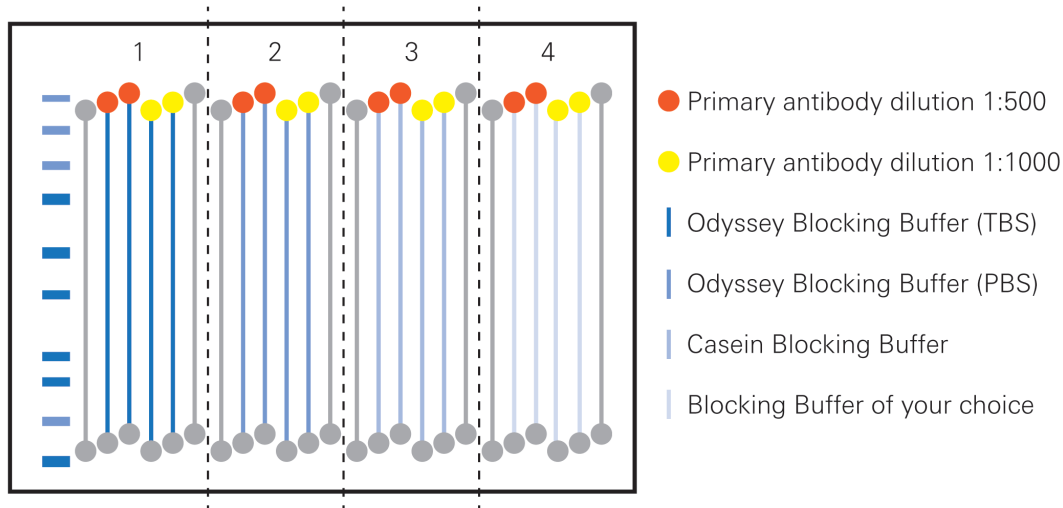

Figure 4. Placement of primary antibody dilutions in the channels of the MPX Blotter.
- Apply 2 replicates of each primary antibody dilution, as shown in Figure 4.